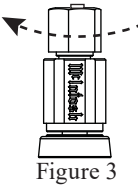

Figure 3
3. Rotate the top of the Output Terminal Post clockwise until it is finger tight. Refer to figure 3. Then using the McIntosh Wrench, rotate the top of the Output Terminal one quarter of a turn (90°). **Do not over tighten.**
- Rotate the top of the Output Terminal Post clockwise until it is finger tight. Refer to figure 3. Then using the McIntosh Wrench, rotate the top of the Output Terminal one quarter of a turn (90°). **Do not over tighten.**